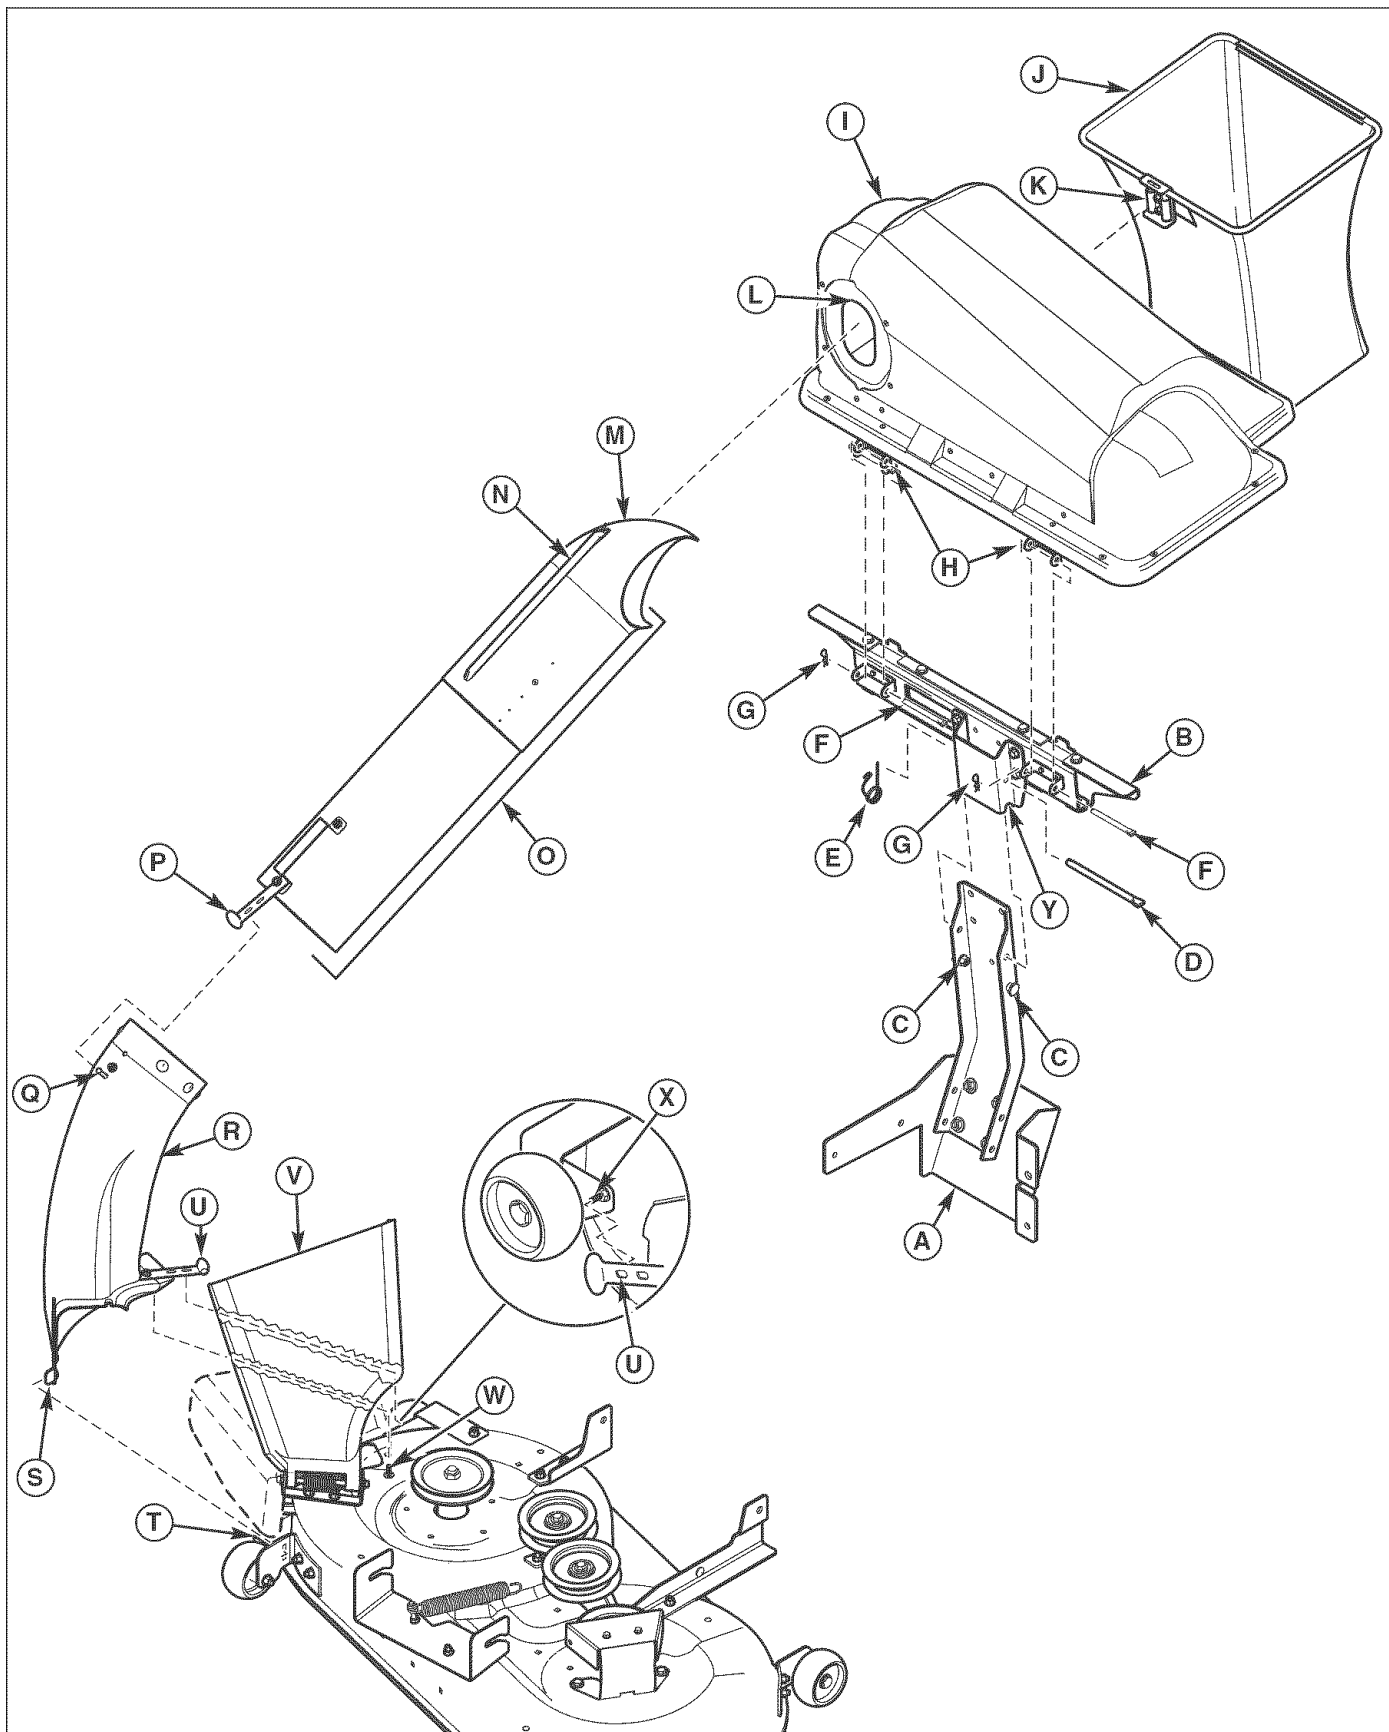

Figure 15. Normal Installation & Removal
Figure 15 continued...
1. Attach bag and cover support assembly (B, Figure 15) to hitch support assembly (A) by sliding the support mount (Y) into place until full contact is made with the shoulder bolts (C).
2. Insert mount pin (D) through support mount (Y) and upright of hitch assembly (A).
3. Secure mount pin (D) with retainer spring (E).
4. Attach cover assembly (I) to bag support assembly (B) using cover hinges pivots (H). Secure cover assembly (I) to bag support bracket (B) using hinge pins (F) and retainer springs (G).
6. Lift discharge deflector (V, Figure 15) up, and insert front latch plate (S) into front latch plate mount (T).
7. Swing lower chute (R) into place below discharge deflector (V) placing hole in lower chute over carriage bolt (W).
8. Stretch rubber strap (U) down to the rear latch plate mount bolt (X) attaching the first hole in the rubber strap over the mount bolt.
9. Slide upper tube (M) into cover (I) aligning ridge (N) with ridge cutout (L).
10. Slide tube assembly (O) over lower chute (R) securing tube assembly (O) to lower chute (R) using rubber strap (P) on tube assembly (O) to pin (Q) on lower chute (R).
1. Unhook rubber strap (P, Figure 15) from pin (Q), then remove tube assembly (O) from lower chute (R) and from cover (I).
2. Lift cover (I) and remove bags (J) from bag and cover support assembly (B).
3. Remove cover (I) by disconnecting retainer springs (G), then remove both hinge pins (F).
4. Remove bag and cover support assembly (B) from hitch assembly (A) by removing retainer spring (E), then removing mount pin (D).
5. Disconnect lower chute rubber strap (U, Figure 15) from rear latch plate mount bolt (X).
6. Lift up discharge deflector (V, Figure 15); remove lower chute (R) from carriage bolt (W), then remove front latch plate (S) from front latch mount (T).
**IMPORTANT:** See that discharge deflector (R) returns to the DOWN position.